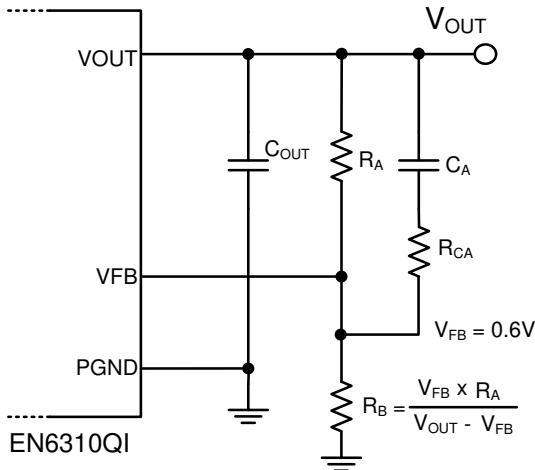

Figure 2. External Compensation
- 2) **Output Voltage Settings (J4)** – With a jumper placed as shown, output voltage is set to 1.2V. The jumper may be switched to change the output voltage from left to right (3.3V, 1.8V, 1.2V and 1.0V). The output voltage may also be adjusted by changing R_B (R_4) as shown in Figure 2.